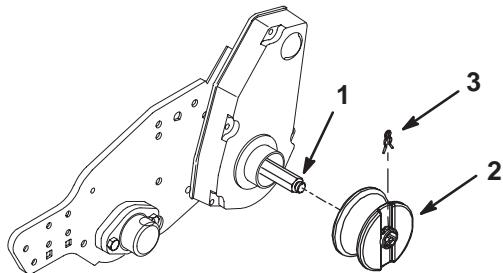

Figure 4
10. Insert a wheel onto each shaft and secure with a wheel clip (Fig. 4).